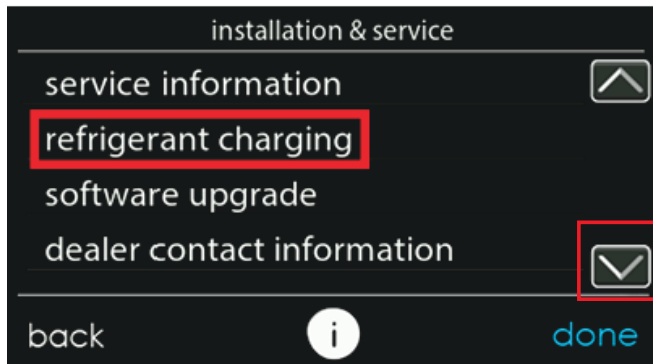

Fig. 14 – Select Refrigerant Charging
4. Navigate to the service area by pressing MENU from main screen (see Fig. 13). Scroll down to service icon and hold until icon turns green. Once in the "Installation and Service" menu, select "Refrigerant Charging" (see Fig. 14).